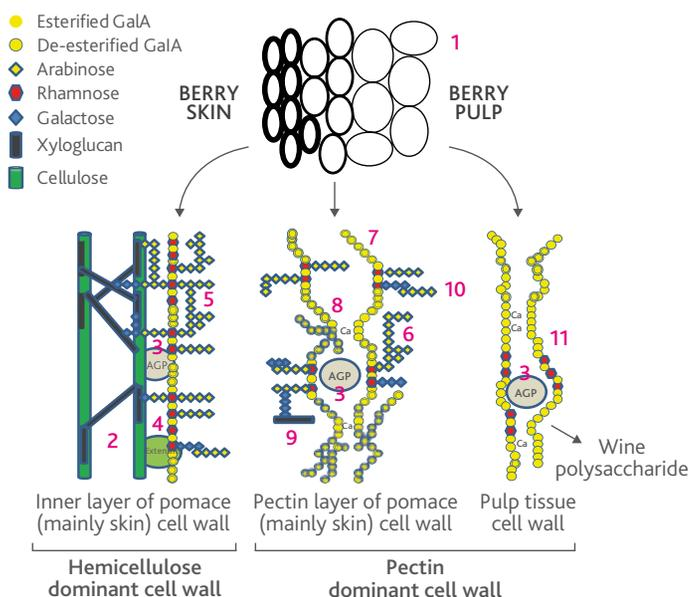

Figure 6. Proposed model of the grape berry cell wall (taken from Gao et al 2016).
The results from Gao et al (2016) were able to support the proposal of a new cell wall structure, depicted in a simplified format (Figure 6). These studies were focused on musts and reflect a degree of esterification of polysaccharides, a function of localization in the berry as well as grape maturity. As the grape berry matures, it is likely that the cell wall and pulp start to depolymerise after veraison, increasing cell size and decreasing cell wall size (thinning) as a consequence. During vinification, the grape berries are crushed and the cell walls of the pulp are easily degraded/solubilized in the wine. As proposed by previous studies, it is likely that this generates a must rich in polymers of homogalacturonanes (HG) and rhamnogalacturonan I (RGI), de-esterified, with the presence of arabinogalactan-proteins (AGP) and in a smaller capacity xyloglucans (XyG). The process of de-esterification is likely to start in the pulp and progress outwards versus the wax cuticle.